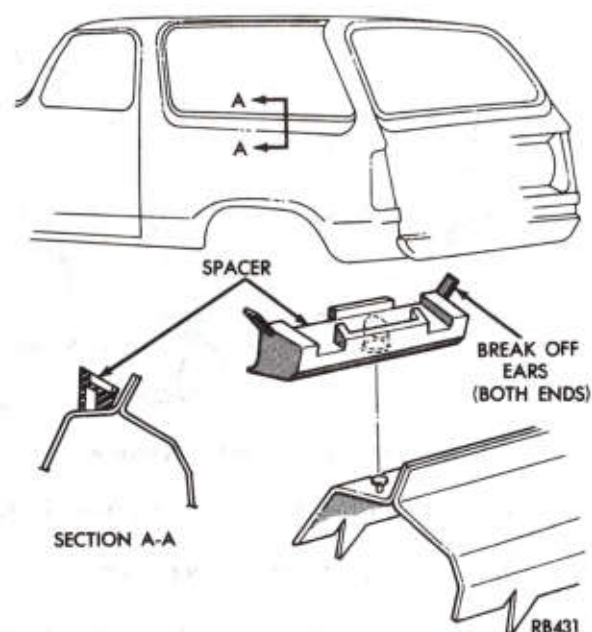

Fig. 10—Installing Quarter Window Spacers
- (3) Check quarter window spacers for proper installation (Fig. 10).